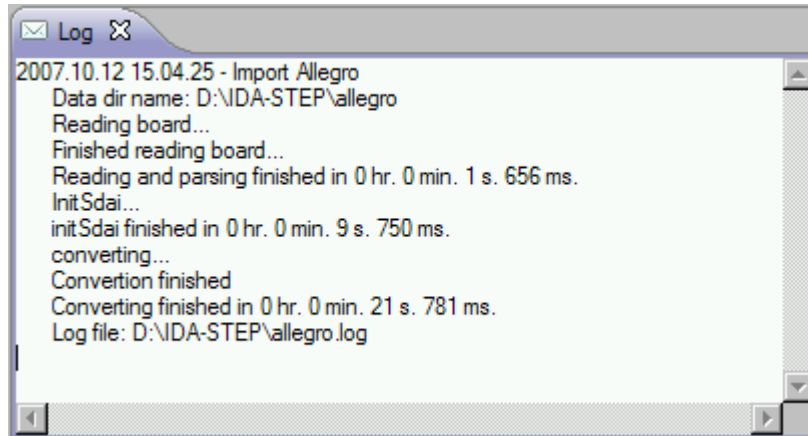

Figure 2. Log view
- Select **Other --> Log** item. The **Log** view appears on the screen (see Figure 2).